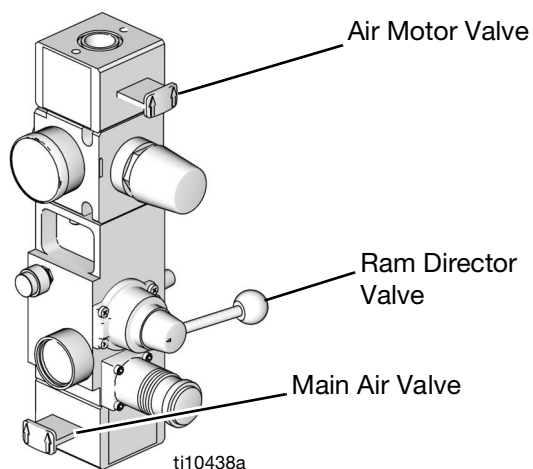

FIG. 3
2. **For D200s, D200, D60 and S20 Air Controls:** See FIG. 3.
- c. Jog the director valve up and down to bleed air from ram cylinders. See FIG. 3.